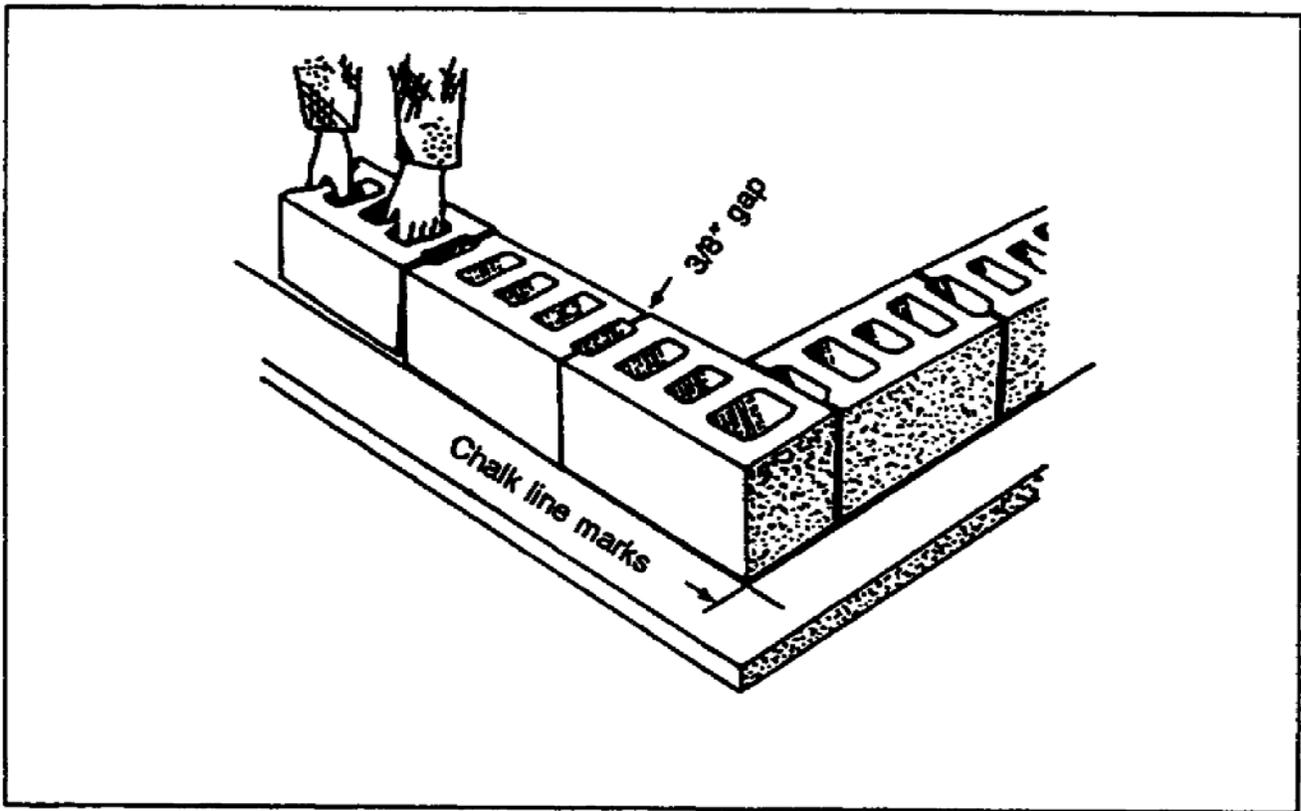

Figure 2-5. Laying out block without mortar
- Check the wall layout by placing the blocks along the wall without mortar. Remember to leave a 3/8-inch gap between each block for the mortar joint (Figure 2-5). This will tell you if any cutting is necessary.